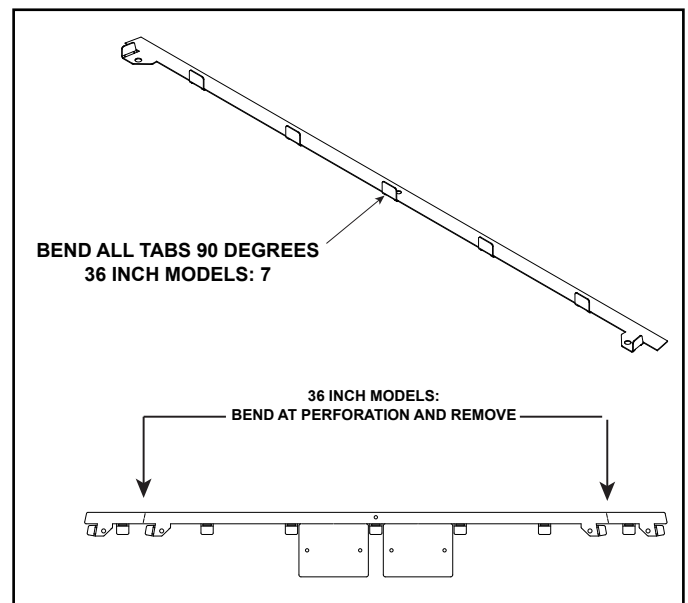

Figure 2 Back Refractory Support
- (1) Back Refractory Support (See Figure 2)
2. Locate back refractory support, included in manual bag assembly shipped with the kit. Remove LED covers from refractory support by bending as shown in Figure 2.
3. Bend two tabs on back refractory support as shown in Figure 2. Bend at perforation and remove.